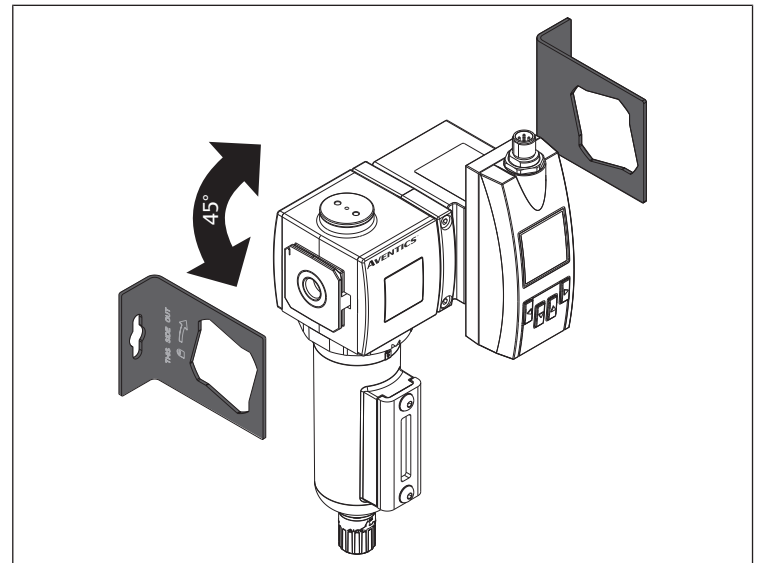

Fig. 6: Assembly with mounting bracket
2. Mount the product with a mounting bracket. See → Fig. 6.